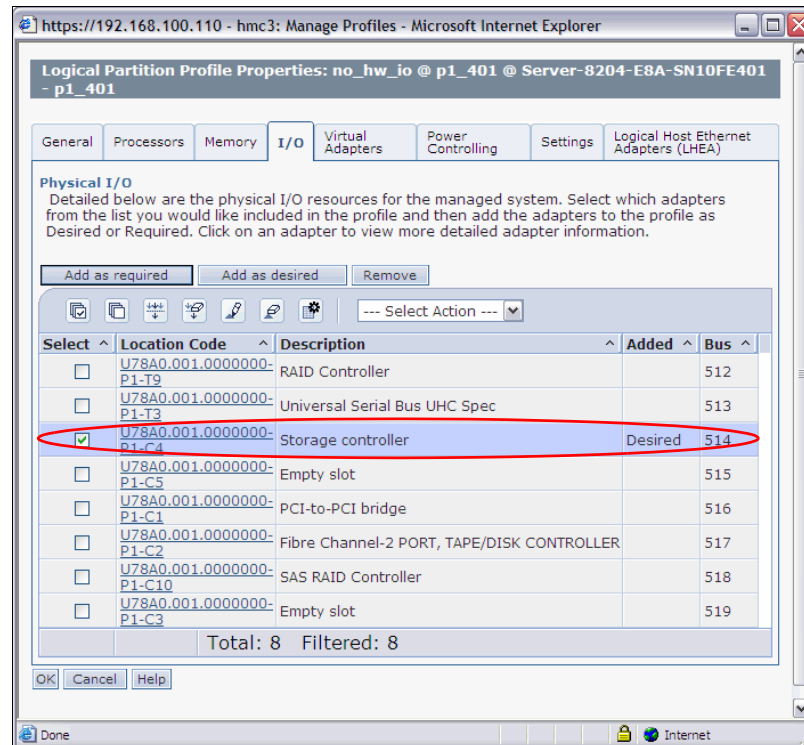

Figure 5-2 Logical Partition Profile Properties panel
7. Modify the client logical partition profile by removing the SCSI adapter with the local attached disks. The physical location code that was noted from the previous step 6 on page 93 was slot C4. Figure 5-2 shows the logical partition profile properties.
Select the correct storage controller, as shown in Figure 5-2, using slot C4. Click the **Remove** tab, click **OK**, then click **Close** to remove the adapter from the profile.